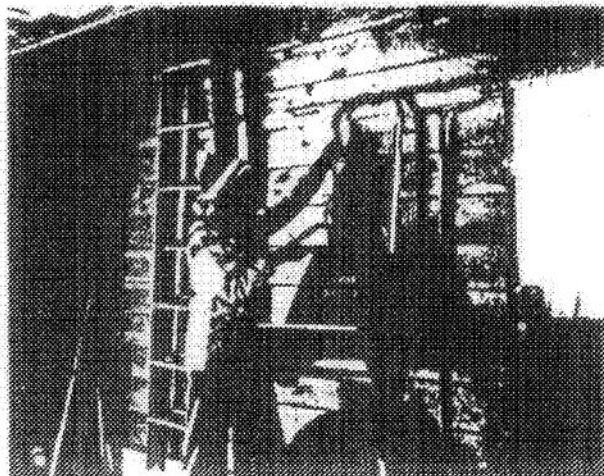

Figure 13
8. Move vanes to vertical position when storing snowthrower. Hang snowthrower up by upper handle for convenient storage (Fig. 13).